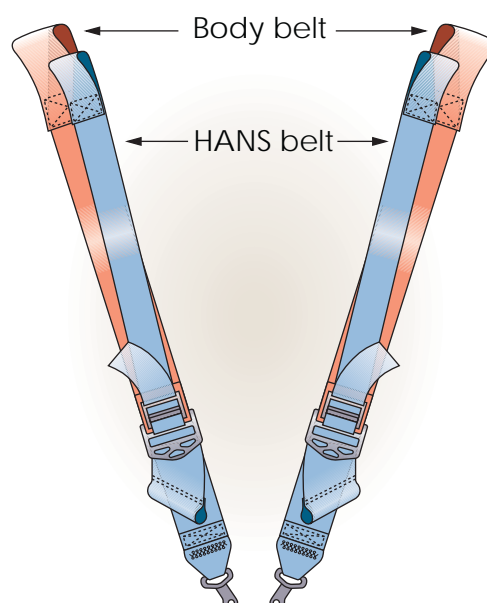

Figure 5. Double shoulder belt system
2.5 Double shoulder belt system: a safety harness system with two straps on each shoulder is homologated by the FIA and may be used. It provides one **body-belt** that is positioned on the driver's shoulders (beneath the HANS®) and a second **HANS®-belt** that is positioned on the HANS® yokes (as for standard HANS® use). It is important that the HANS®-belt is at least as tight as the body-belt. A drawing of the double belt system is shown in Figure 5.